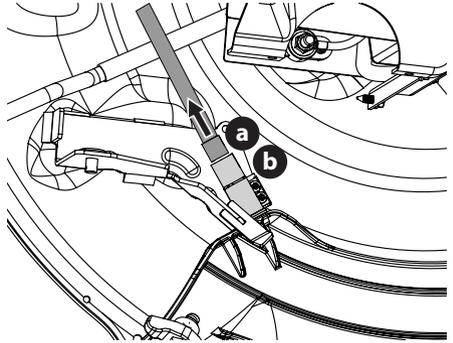

Figure 20
6. Unplug the wire connector (a) from the safety switch (b) at the rear of the chute opening (Figure 20).
3. Plug the wire connector (a) into the safety switch (b) at the rear of the chute opening (Figure 20).
NOTE: Be sure to securely reconnect the wire connector to the safety switch (Figure 20), your riding mower will not start or operate without the safety switch properly connected.